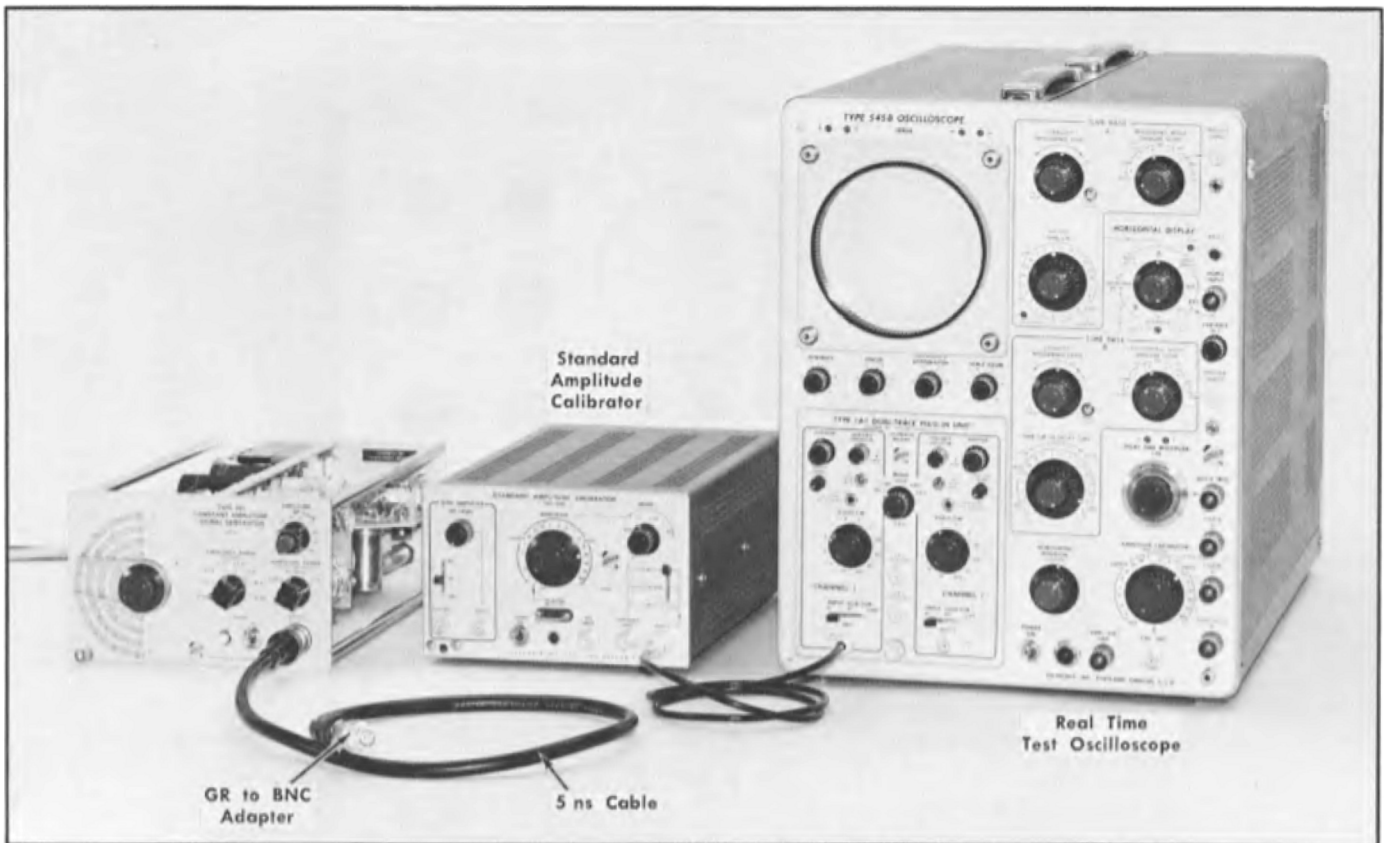

Fig. 6-7. Test equipment setup for step 5.
- a. Test equipment setup is shown in Fig. 6-7.